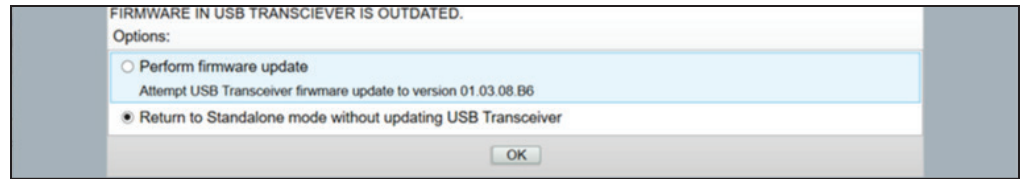

Figure 8. The Firmware in USB Transceiver is Outdated selection menu.
- STEP 3.** If the firmware can be updated, the following selection menu will appear. See Figure 8 on page 15. (If the firmware is up to date, a dialog box will appear.)